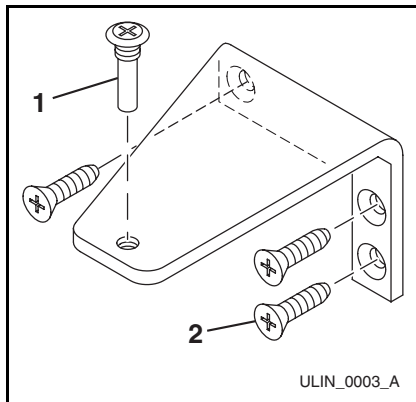

Figure 23
1. Remove top hinge screw pin (**Figure 23, 1**) from door using a Phillips screwdriver. Remove door by tilting forward and lifting off bottom hinge pin.
3. Remove top hinge (three screws) (**Figure 23, 2**) and reinstall hinge screw pin (**Figure 23, 1**).